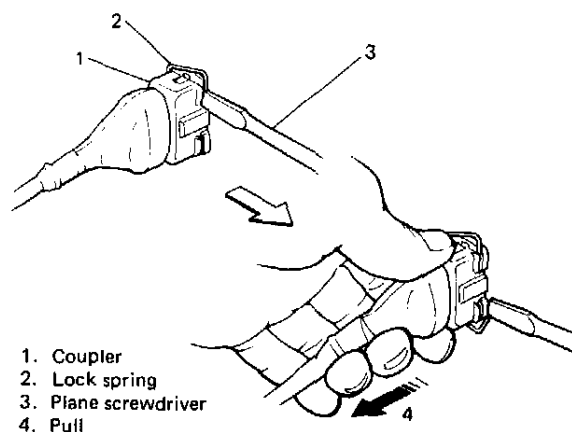

Fig. 3-1 Disconnection of Spring Lock Type Coupler
- When disconnecting couplers, don't pull wire harness but make sure to hold coupler itself. With lock type coupler, be sure to unlock the lock before disconnection. With spring lock type coupler as shown in Fig. 3-1, push out